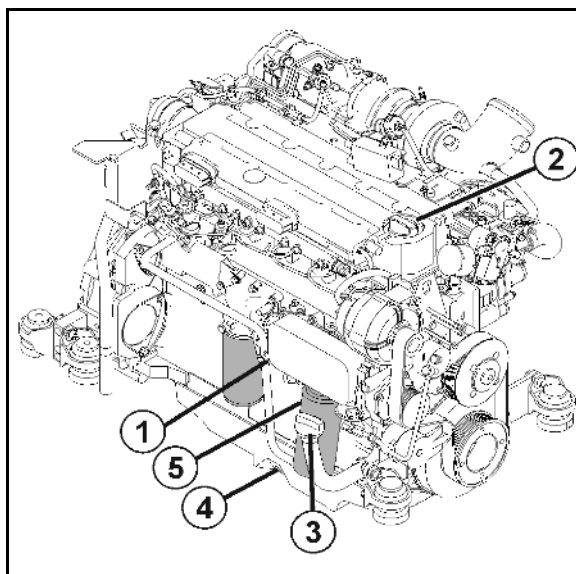

Fig. 163
2. Undo the lubricating oil filter cartridge (Fig. 163/5) using standard commercial tools and unscrew it.